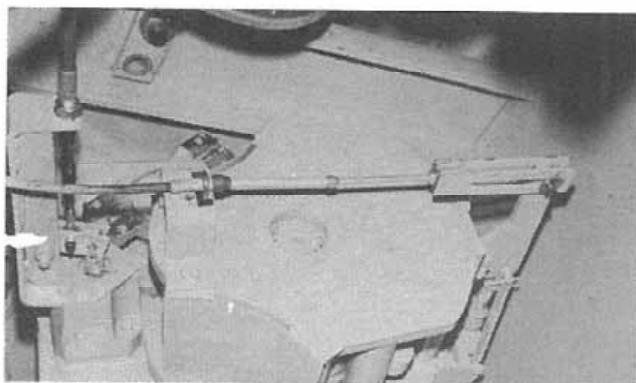
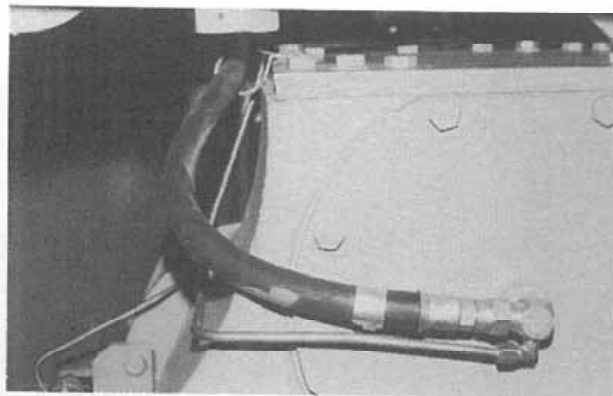

Figure 7:
Figure 8:
6. Connect the shift cable/yoke and the park brake cable/yoke to their linkages (Fig. 7). Connect the oil feed hose (Fig. 8) in the rear of the unit.